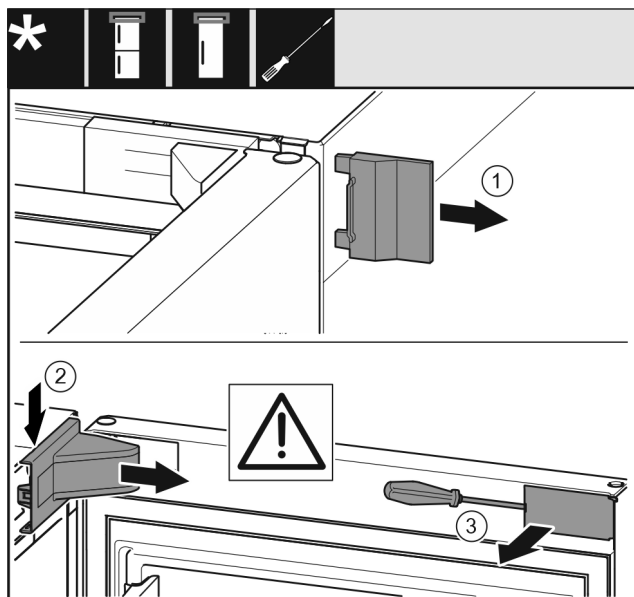

Fig. 10
- Remove the outer cover Fig. 10 (1).
- Disengage and remove the swap bearing block cover Fig. 10 (2).
- Use a slotted screwdriver to unlatch the trim Fig. 10 (3) and swing it to the side.